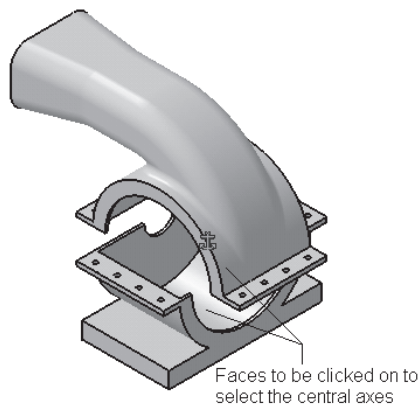

Figure 11-69 Surfaces on which you need to click to select the central axes
4. Choose the **Coincidence Constraint** button from the **Constraints** toolbar. Now, select the two cylindrical surfaces, as shown in the Figure 11-69, to select the central axes of these surfaces.